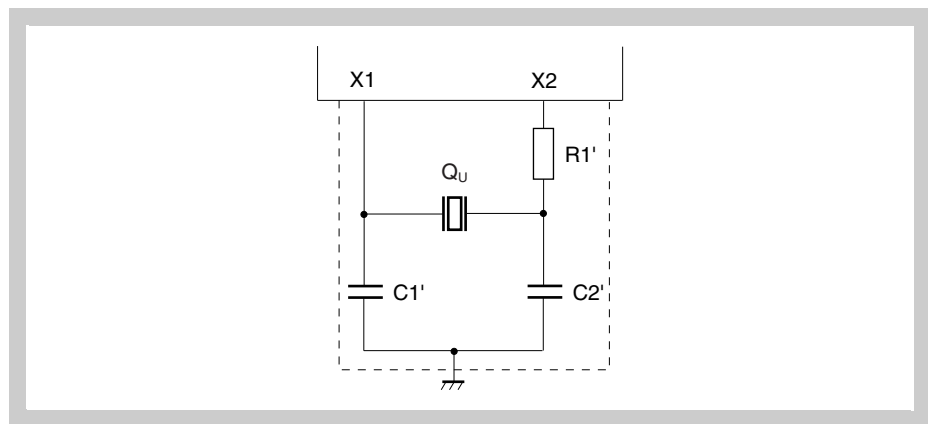

Figure 4-1 Recommended Main Oscillator Circuit
2. A ceramic or crystal resonator has to be connected to the main clock input pins as shown in Figure 4-1.